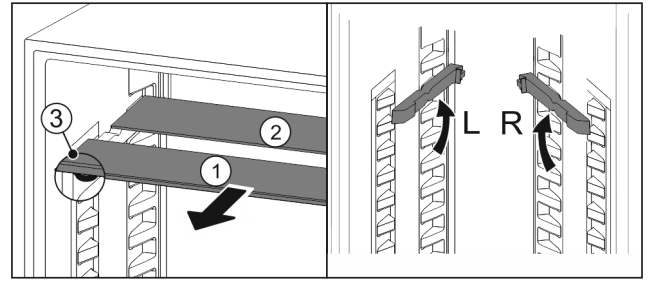

Fig. 71
- ▶ Pull the glass panels out Fig. 71 (1) from the front, one at a time.
- ▷ The glass panel Fig. 71 (1) with the trim strip is at the front.
- ▷ The stops Fig. 71 (3) point downward.